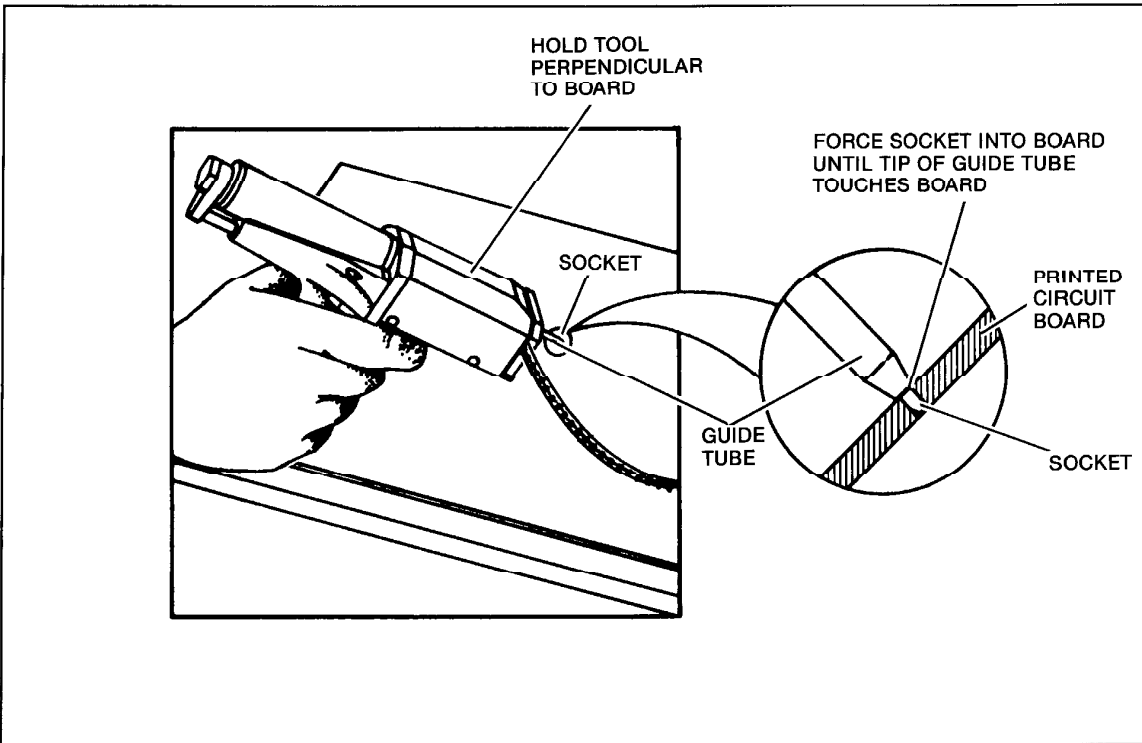

Fig. 3-7. Hand Tool Position Over PC Board
When using the hand tool for the first time, you should practice the necessary movements with it, without having factory air connected to it. First, hold the tool securely in either hand, with index finger positioned over trigger. Try to get used to the weight and feel of the tool. Practice aiming and moving the tool over the holes in the pc board (see Figure 3-7).
2. With trigger still depressed, hold hand tool firmly and perpendicular to board. Then push end of socket into selected mounting hole, making sure tool remains perpendicular to board. Force socket into hole until tip of guide tube touches board. See Figure 3-7.